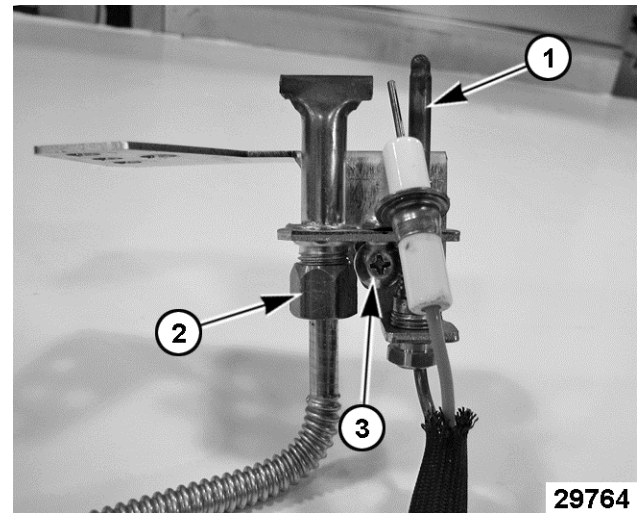

Fig. 72
9. If replacing thermocouple only, remove thermocouple (1, Fig. 72) from pilot assembly. Continue to last step.
10. If replacing pilot assembly, remove pilot flex (2, Fig. 72) tube and thermocouple (1, Fig. 72).
- A. Remove screw (3, Fig. 72) securing pilot assembly to mounting bracket.